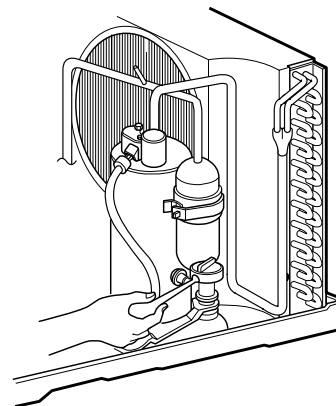

Figure 25
6. Remove the compressor. (See Figure 25)